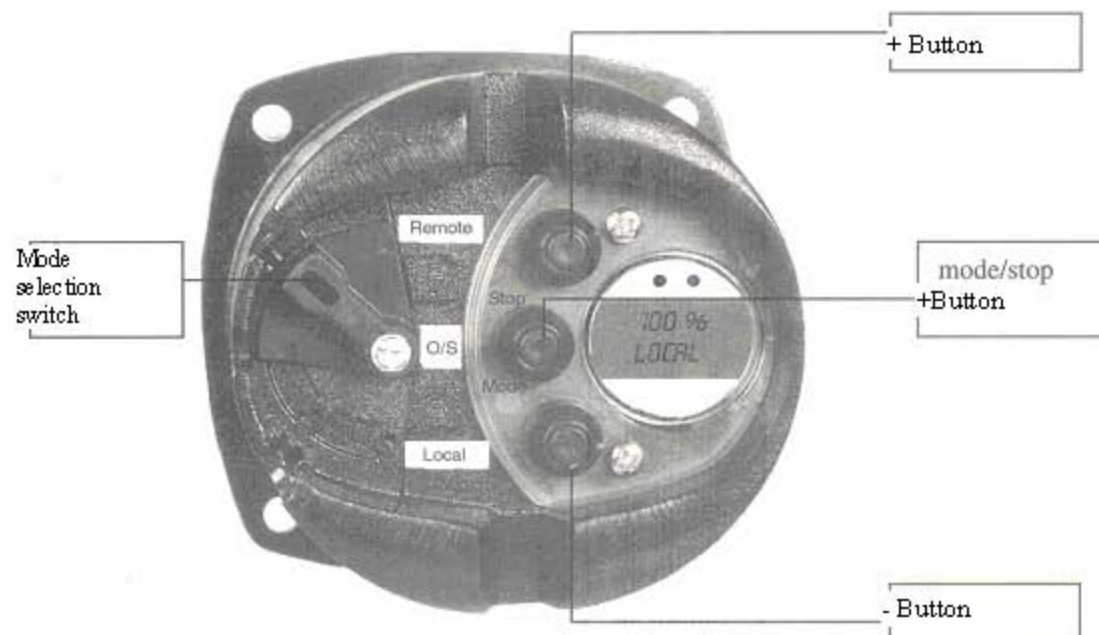

Fig. 3 Actuator Dash Board
- Button: (refer to Fig. 3 for function usages)
Put the mode selection switch to the “Local” position before the operation or adjustment on Actuator Dash Board (See Fig. 3).